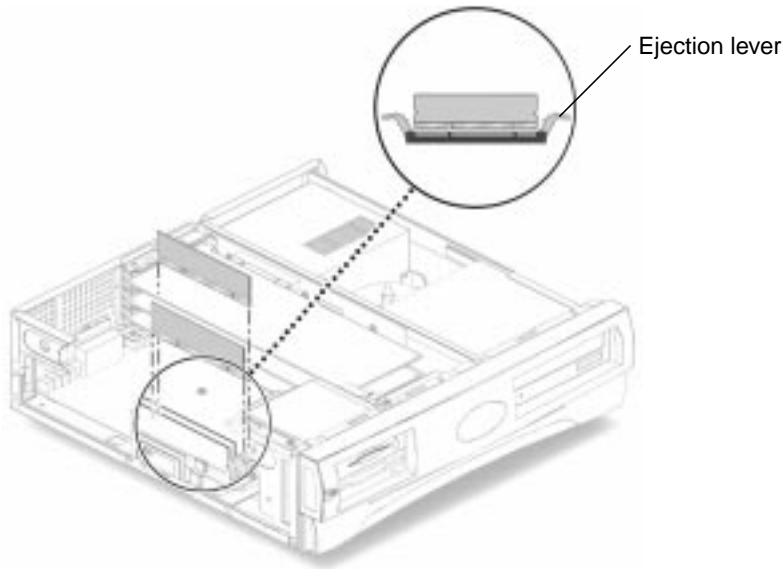

FIGURE 8-5 Removing and Replacing a DIMM
3. **Push the ejection levers at each end of the DIMM connector away from the DIMM (FIGURE 8-5).**
2. **Position the DIMM in the connector, ensuring that the notches on the bottom of the DIMM are aligned with the connector alignment keys (FIGURE 8-5).**